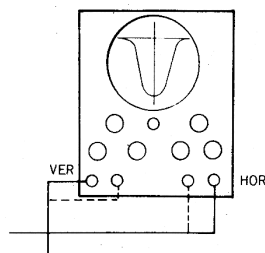

Figure 3-3. AM IF Waveform
3. When the sweep generator frequency is set to 262.5 kHz and its output level is increased, a waveform as shown in figure 3-3 is obtained.
4. Adjust the core of each IFT (IFT5 and IFT6) so that the peak of the waveform shown in figure 3-3 becomes maximum. At this time, the marker signal must be 262.5 kHz.